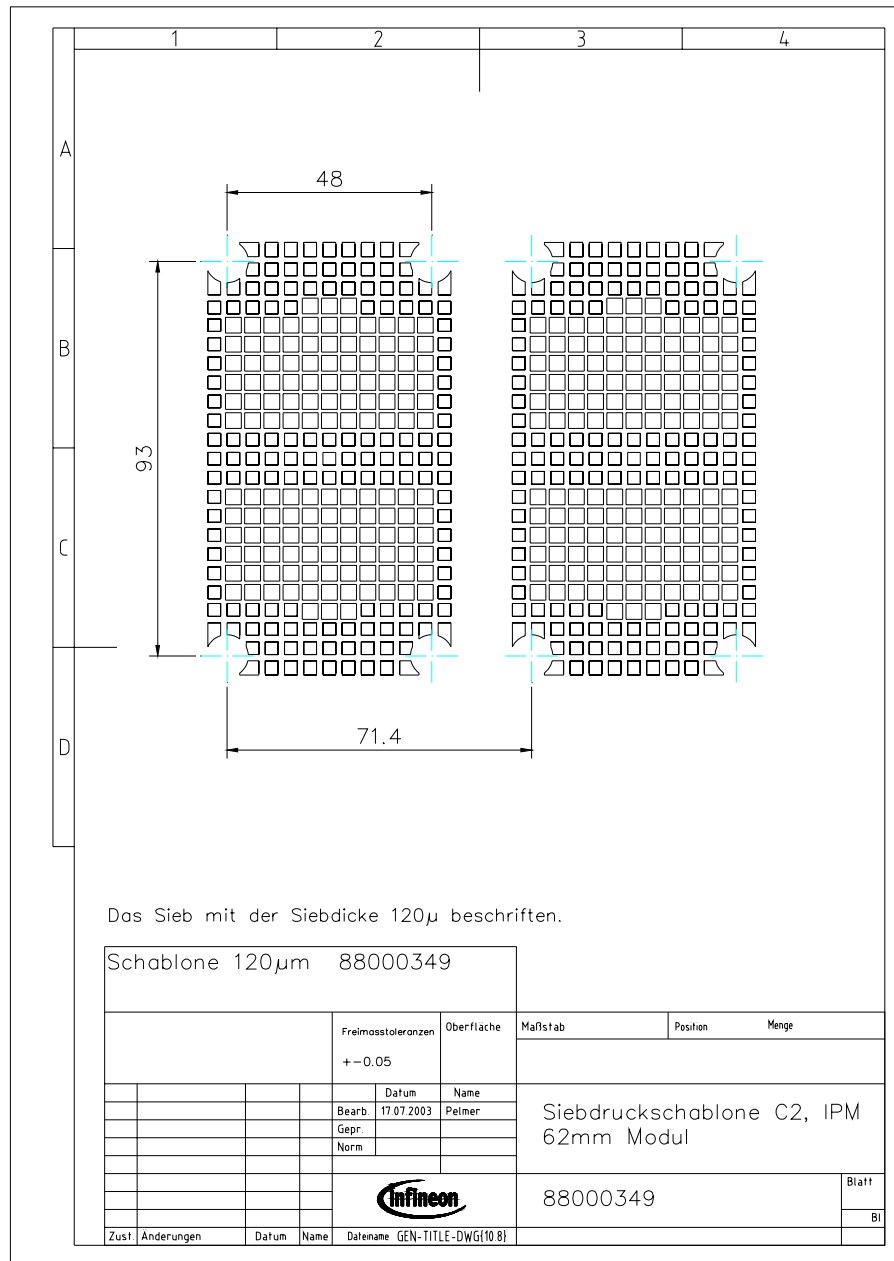

Figure 2
- Screen print template as shown in drawing no.: 88000162.0 (figure 2)